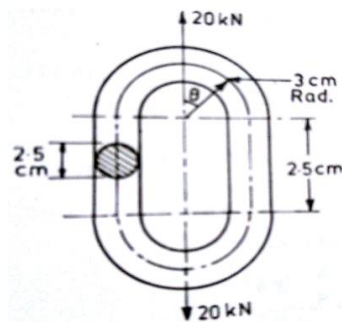

Fig .4
4. A chain link shown in fig.4; is subjected to a pull of 200kN. It is composed of steel 2.5cm diameter and has a mean radius of 3cm. Its semi-circular ends are connected by straight pieces 2.5 cm long. Estimate maximum compressive stress in the link and tensile stresses at the same section. 15M